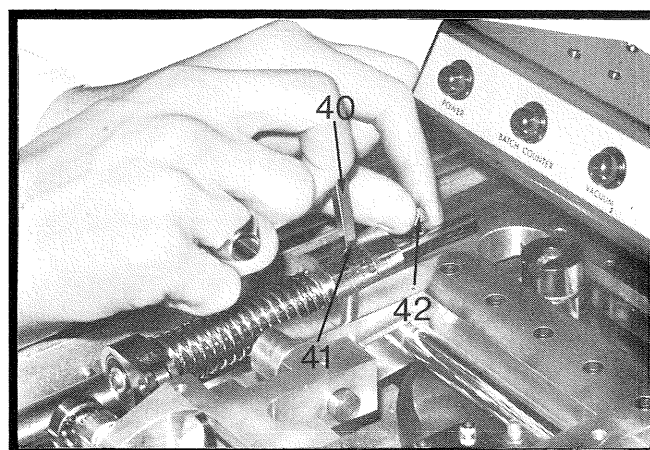

Fig 40
- C 1 First, squeegee pressure must be released (Fig 40). Place tommy bar (40) from tool kit in slotted collar (41). Withdraw plunger (42), turn tommy bar to left and release plunger into next indexing hole.